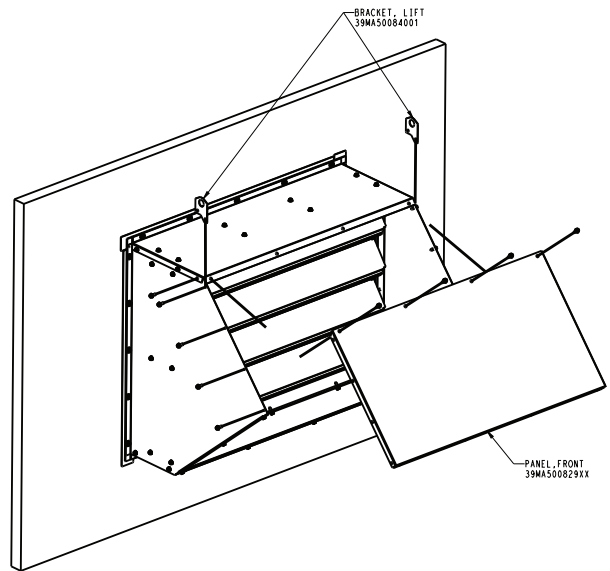

Fig. 85 — Attaching the Front Panel and Lifting Brackets
14. Attach front panel to power exhaust assembly using the $\frac{1}{4}$ in.- $\frac{5}{8}$ in. long sheet metal screws (without neoprene washer.) Also, attach the lifting brackets to each side of the top of the assembly using the $\frac{1}{4}$ in.- $\frac{5}{8}$ in. long sheet metal screws (without neoprene washer.) See Fig. 85.